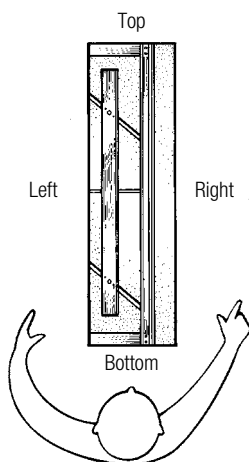
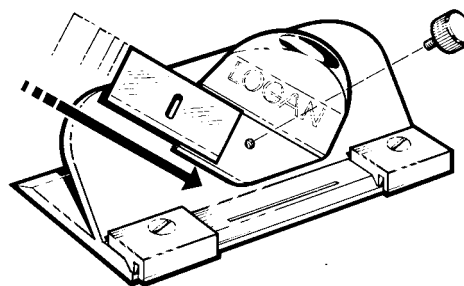

Fig. 2
Fig. 3
3. Place blade onto blade holder, sharp edge down and slide blade until corner of blade tip enters slot and hole in blade lines up with hole in blade holder (Fig. 2) (Fig. 3).